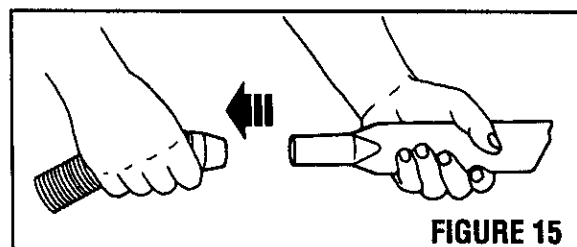

FIGURE 15
4. Insert the desired attachment into the Hose Collar. (Figure 15)